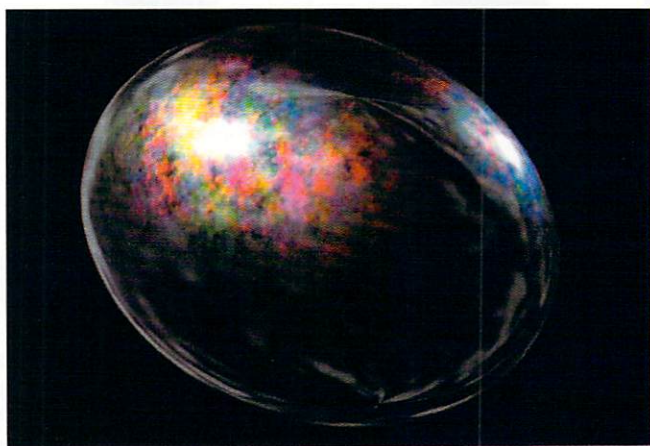

Figure 7. Adding a second layer of polygons creates a clear coat, allowing interesting and powerful surfacing tricks, as seen in this opal.
We can recreate our ruby surface here by setting the Primary Wavelength to 780 nm and setting the Angle Variation to -150 nm. Be sure to raise the base Transparency value back to 100%, then hit F9. Figure 7 shows a ruby surface created with the Thin Film shader.
**15.** This just created an outer clear coat around the Stone surface, which allows us to keep a very smooth appearance to the gem, even if we apply bumps to the surface inside. Currently, the Stone surface has a wide, intense, color highlight that will now have the smaller white highlight of the outer surface located in its center. Type F9 to see the two surfaces interacting with one another (Figure 7).